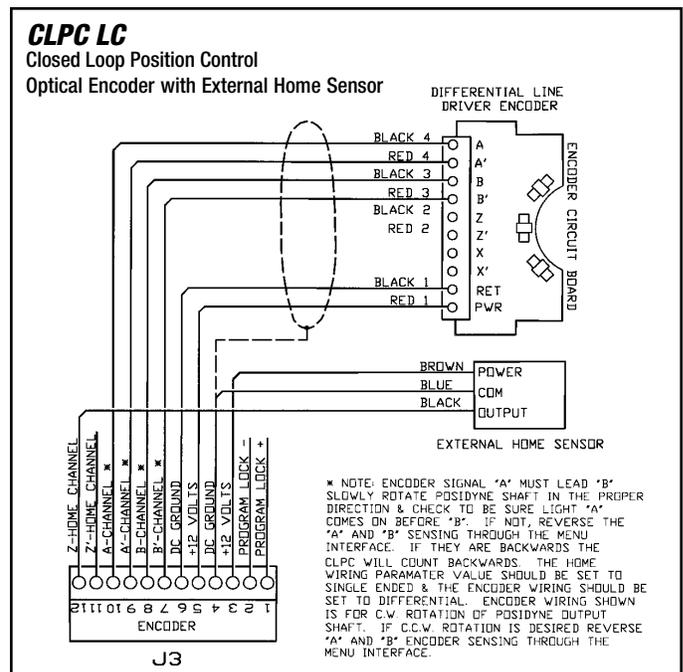

Figure 3.13 - Wiring Diagram - Terminal Block #J3 (With External Home Sensor)
B. CLPC LC Control to Optical Encoder with External Home Sensor (See Figure 3.13)